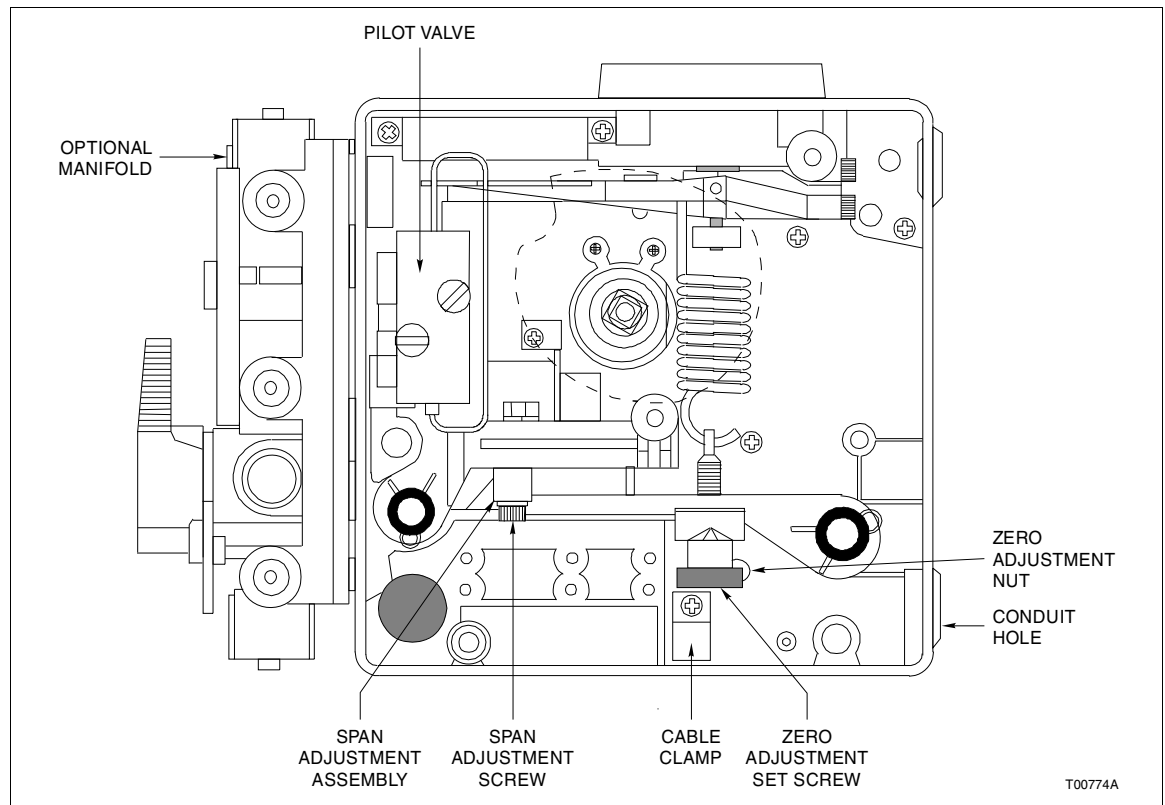

Figure B-12. Calibration Adjustments
**NOTE:** Route the wiring inside the positioner so it does not become entangled with moving parts. A cable clamp (Figure B-12) is provided inside the positioner so entanglement can be avoided.
- NOTE:** Route the wiring inside the positioner so it does not become entangled with moving parts. A cable clamp (Fig. B-12) is provided inside the positioner so entanglement can be avoided.